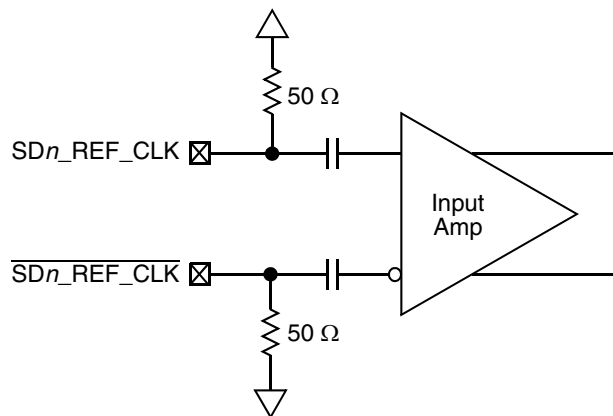

Figure 41. Receiver of SerDes Reference Clocks
Figure 41 shows a receiver reference diagram of the SerDes reference clocks.
- The $\overline{SDn_REF_CLK}$ and SDn_REF_CLK are internally AC-coupled differential inputs as shown in Figure 41. Each differential clock input ($\overline{SDn_REF_CLK}$ or SDn_REF_CLK) has a 50- Ω termination to $SGND_SRDSn$ (xcorevss) followed by on-chip AC-coupling.